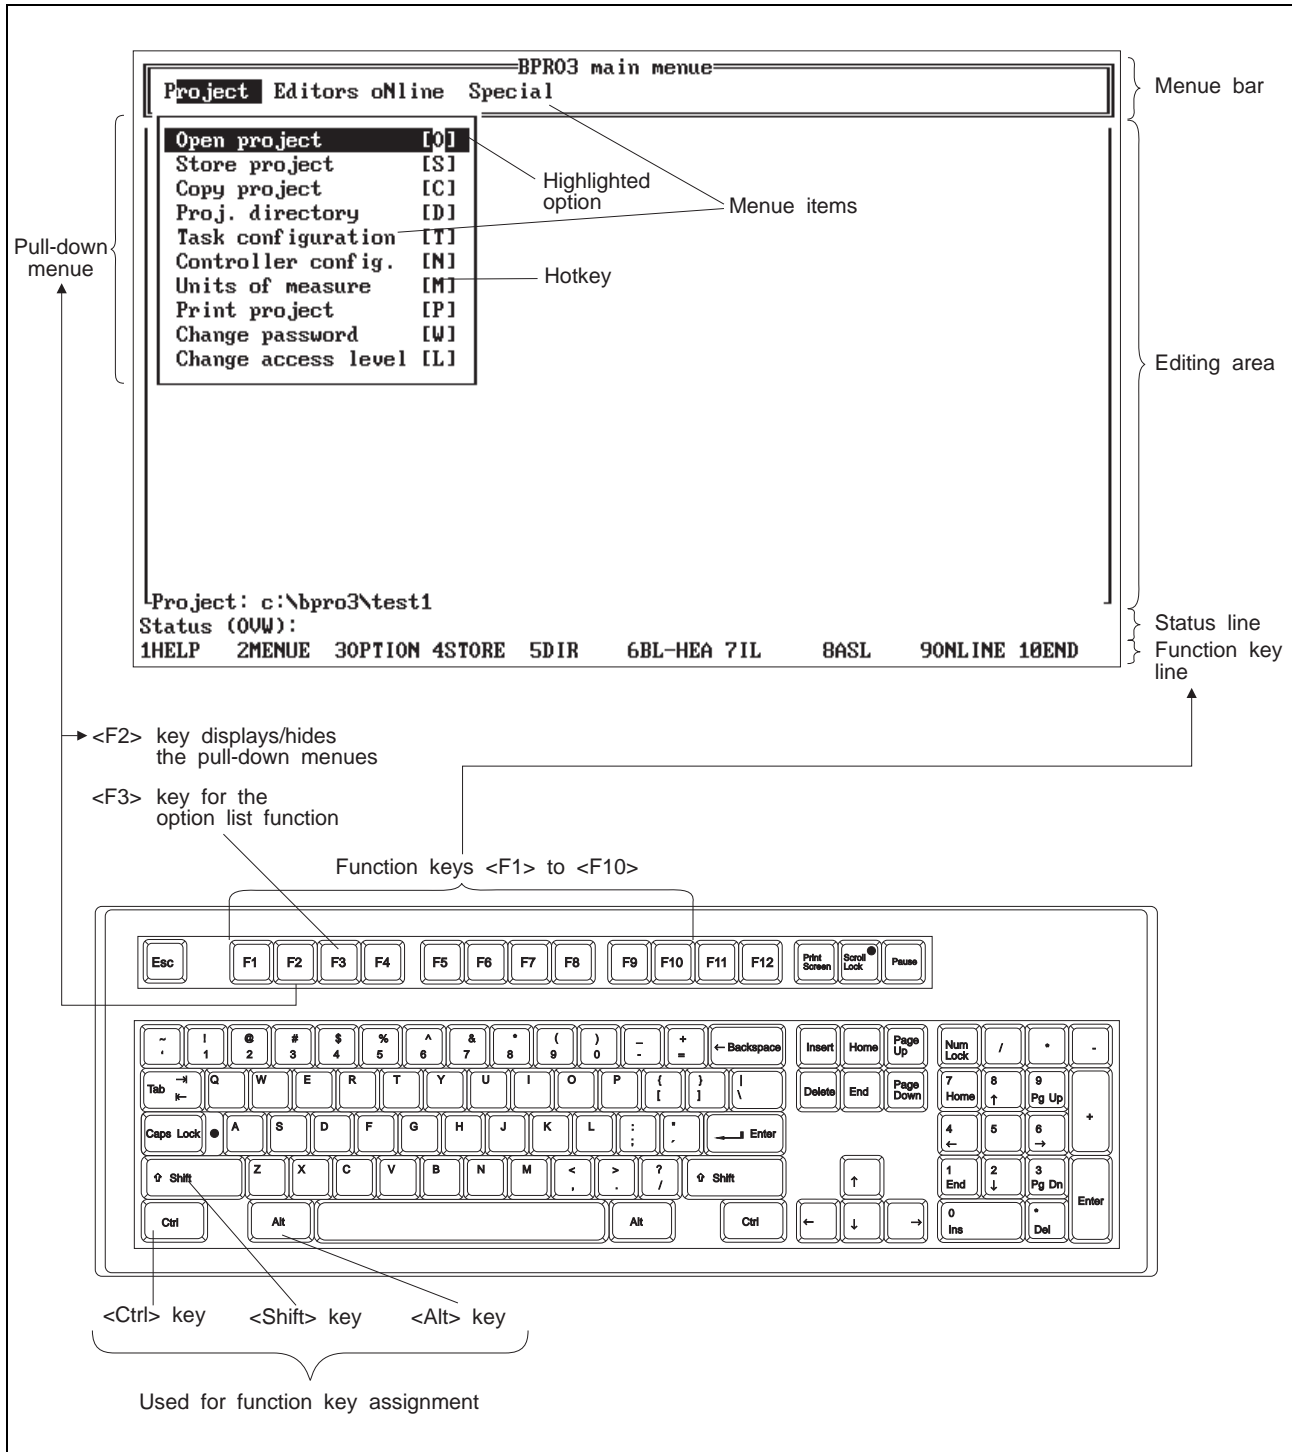

Fig. 3-2 BPRO3 user interface
This chapter describes general operating functions of the BPRO3 programming system. These operating functions are applicable to all BPRO3 modules. Figure 3-2 shows the various screen areas of BPRO3 (see also chapter 1) and the most important control keys.
- 3.2.1 Selecting a menu option** You can open or close a pull-down menu by pressing <F2> (see fig. 3-2). The adjacent pull-down menus open automatically when you move the highlight with the cursor keys (<←> and <→>). The highlight marks the current menu option by inverse representation (see fig. 3-2).
For a more detailed description of the display screen areas illustrated in figure 3-2, refer to chapter 1.